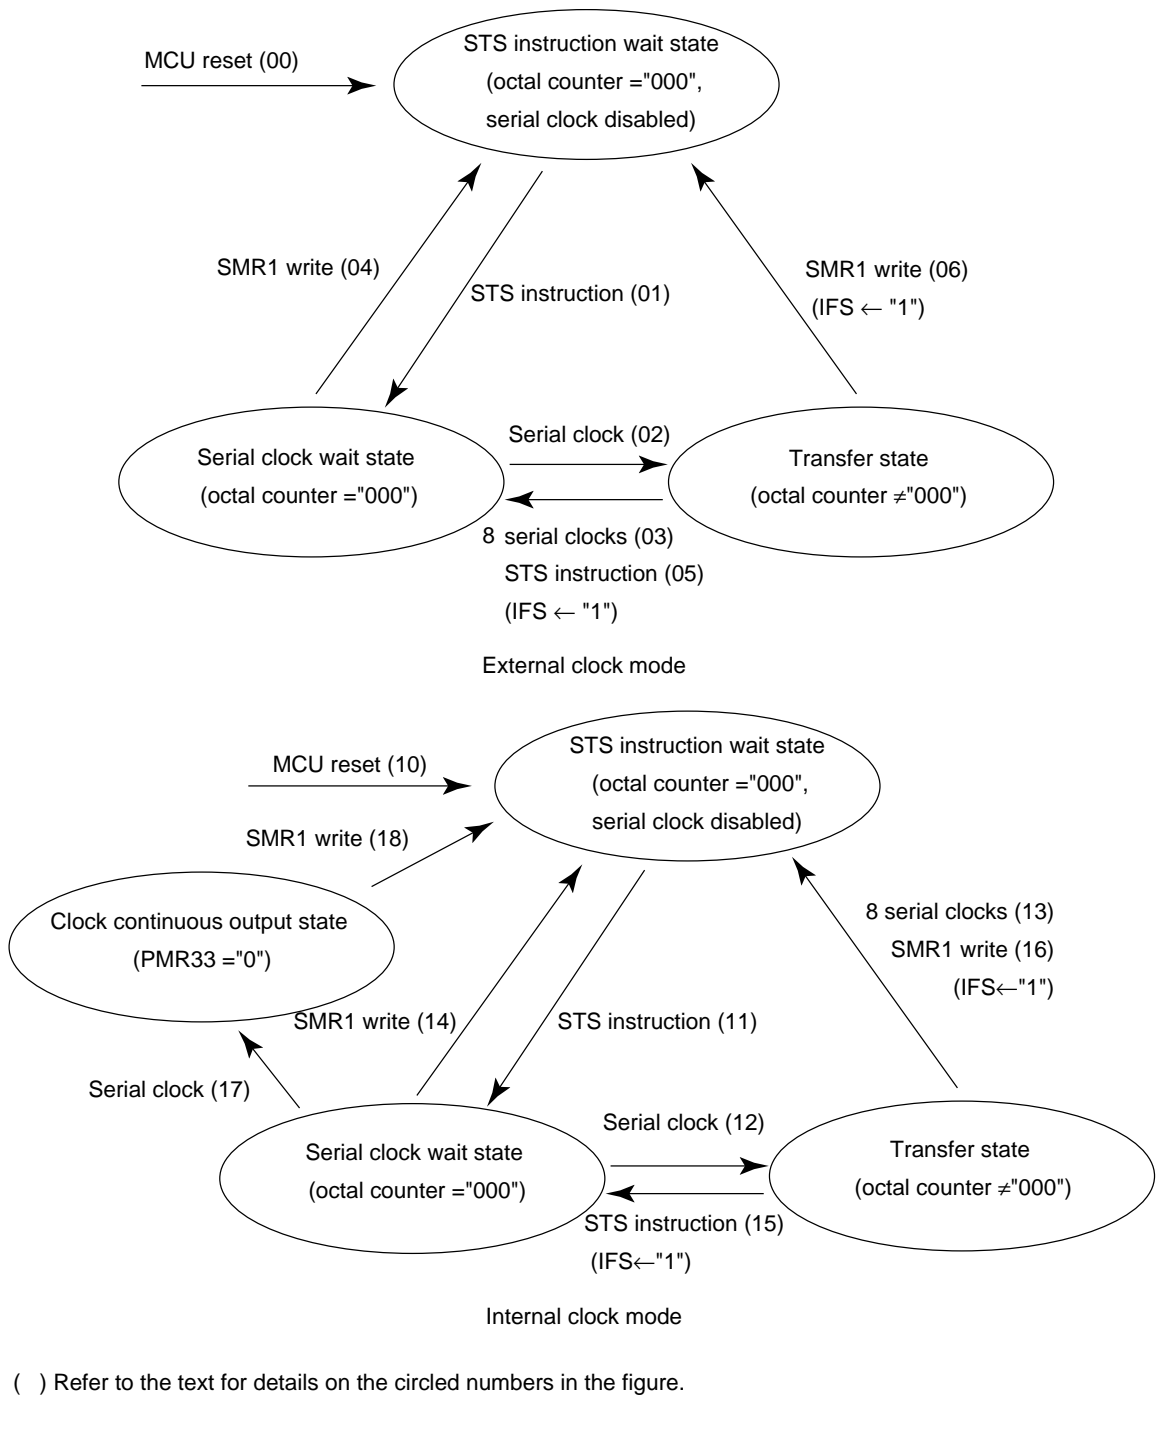

Figure 53 Serial Interface Operating States
The serial interface has the operating states shown in figure 53 in external clock mode and internal clock mode.
Upon MCU reset ((00), (10) in figure 53), the serial interface enters the STS instruction wait state. In the STS instruction wait state, the internal state of the serial interface is initialized. Even if the serial clock is input at this time, the serial interface will not operate. When the STS instruction is executed ((01), (11)), the serial interface enters the serial clock wait state.